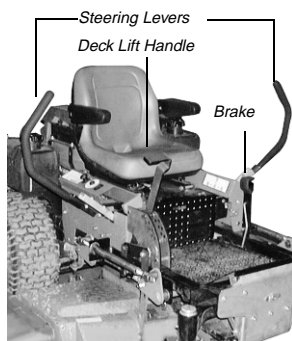

Figure. 3
3. **Left and Right Steering Levers:** (See Figure 3.) These hinged levers open out to the side in the neutral position to permit the operator to be seated or to leave the mower's seat. The operator, when seated, can pull the levers up to the operating position, a comfortable forearm's length away. These levers control all of the movements of the mower.
5. **Parking Brake:** (See Figure 3.) Located on the left side of the traction unit. The handle is an overcenter lever which applies the internal drum-type brake on each drive wheel when the handle is pulled to the rear. The brake must be engaged in order to start the engine.
6. **Deck Lift Handle:** (See Figure 3.) Located on the right front corner of the mowing deck. To raise the mowing deck to the transport position, the lever is pulled to the rear and moved inward to lock into a stop for transport. To lower the mowing deck, raise the deck lift handle and move it outward. This allows the handle to move forward, lowering the deck to the cutting position.